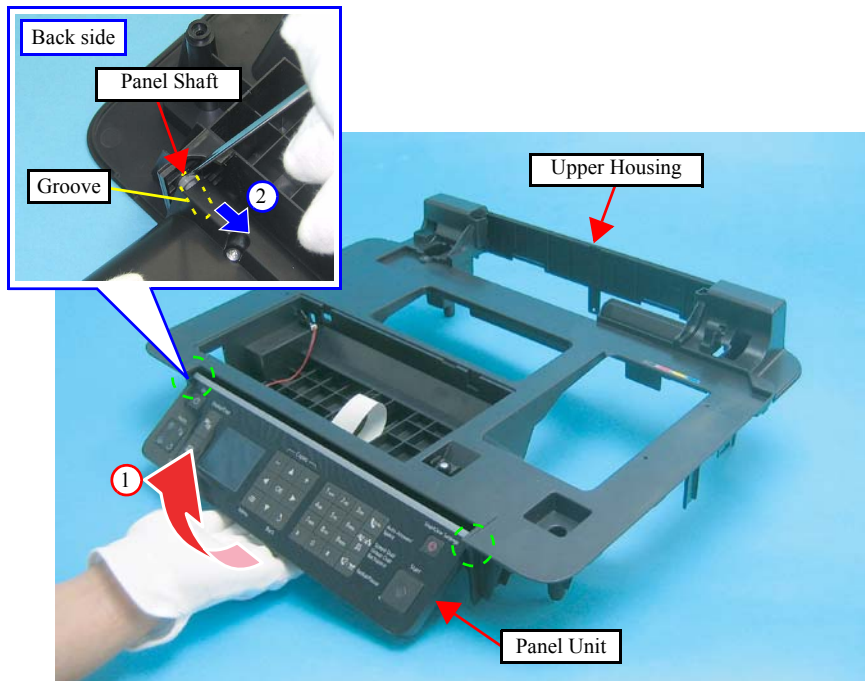

Figure 4-16. Removing the Panel Unit (1)
3. Install the Panel Shafts (x2) into the groove of the Upper Housing. (Refer to Figure. 4-16.)